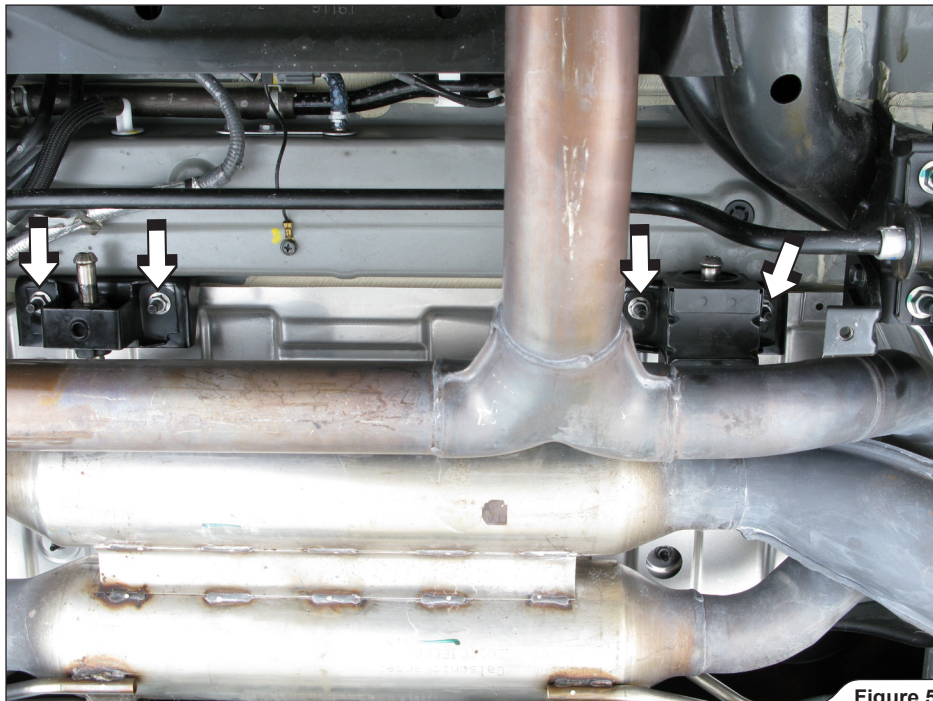

Figure 5
4. Unscrew the marked nuts (Figure 5, 6).